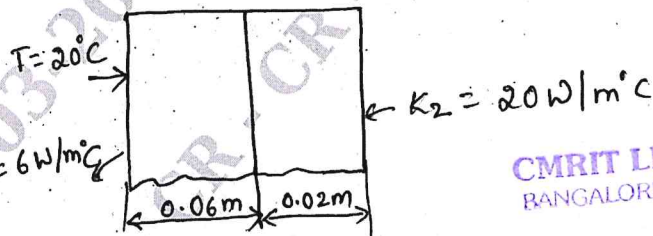

Fig Q8(a)
- 8 a. Determine the temperature distribution through the composite walls subjected to convection heat loss on the right side surface with convective heat transfer coefficient shown in Fig Q8(a). The ambient temperature is  $-5^\circ \text{C}$